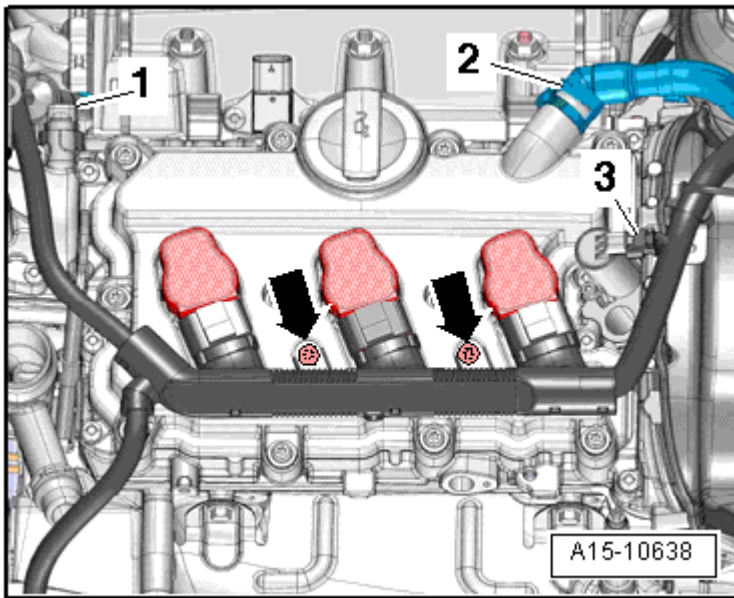

Fig. 16: Identifying CMP Sensor And Exhaust Camshaft Control Valve Cylinder Bank 2 (Left)
Component location, refer to **Fig. 16**
- Component location, refer to **Fig. 16**